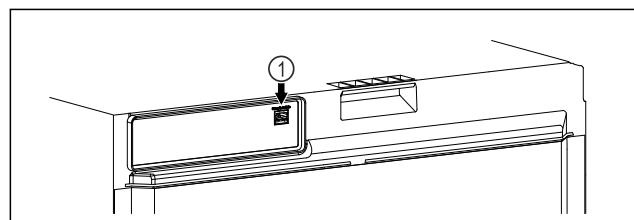

Fig. 142
SmartModule Fig. 142 (1) has been inserted.